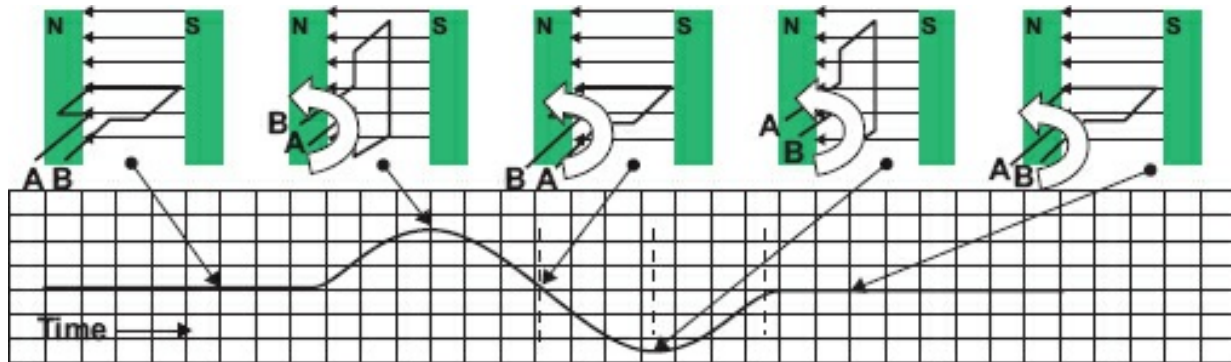
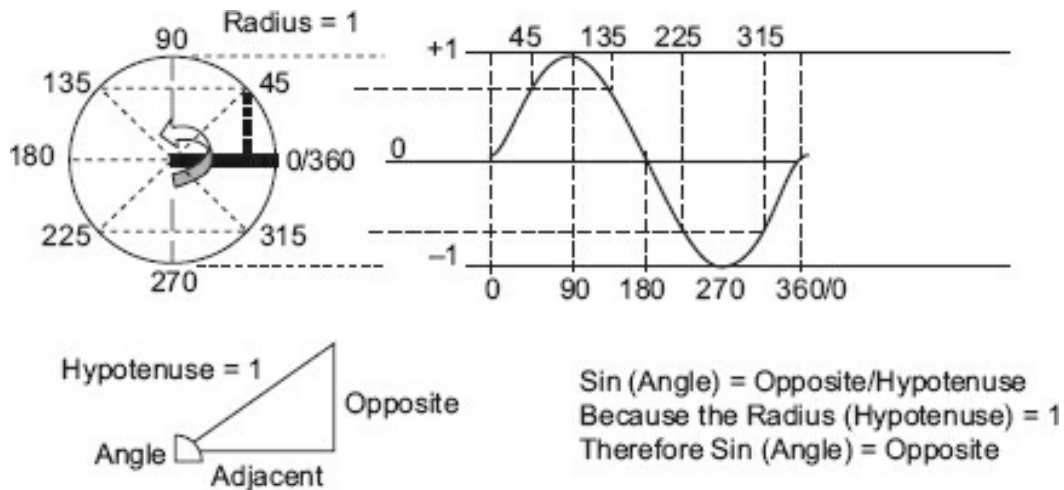
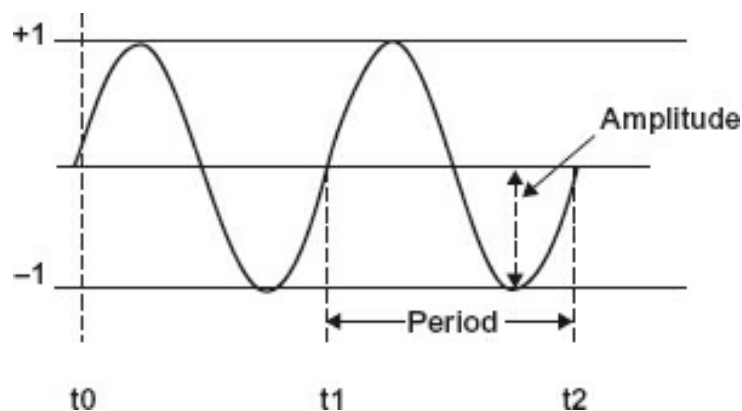

Figure 2-4. Generating an alternating current.
Figure 2-5. Sine wave.
Figure 2-6. A sinusoidal waveform.
For this discussion, there is only one conductor. Figure 2-4 illustrates how a coil that is placed in a magnetic field and rotated will generate an electromotive force, or E (voltage), in accordance with Faraday's law of induction. If the circuit is completed (closed), the voltage will force a current through the circuit. The arrow points to the portion of the curve generated by movement to that position from the previous position.
Figure 2-5 illustrates why this is called a *sine wave*. With the radius as the amount of voltage generated by a single coil (seen previously in Figure 2-4), start at 0° rotation and rotate the radius counterclockwise 360° so it aligns with where it started, just as shown in Figure 2-4. The radius for the circle in Figure 2-5 is 1. The voltage generated will be the sine (sin) of the angle of the radius relative to where it started (0°) during rotation.
One must visualize this sine wave along with the switching system to see what is taking place. Ohm’s law is not (and will not be) repealed. Let us use the drawing in Figure 2-6 and define a few terms.
- **Peak-to-peak value** – This is measured from the positive most voltage excursion negative most voltage excursion. In Figure 2-6, the peak-to-peak value is 2.0 me from either the negative-most or the positive-most excursion to the peak value opposite excursion.
- **Peak voltage** – The peak value for either the negative or the positive excursion. In Figure 2-6, the peak value is 1.0.
- **Root-mean-square (rms)** – Also called the *effective* value. Practically speaking, this value of an AC sinusoidal waveform that produces the same heating effect as a DC value of this value. For example, 0.707 V rms will produce the same heating effect as 0.707 V DC. Most alternating voltage/current values are rms. In Figure 2-6, the rms value is 0.707. To calculate the rms value from the peak voltage, multiply the peak voltage by 0.707. To calculate the peak voltage from the rms value, multiply the rms value by 1.414. (You want to know why, 1.414 is the reciprocal of 0.707.)
- **Frequency** – The number of occurrences in a specified time period (identified in Figure 2-6), usually 1 s. Frequency is measured from one point on a recurrent waveform to the same point on the following waveform. In Figure 2-5, 0° is one point and 360° is the other end of the complete waveform. It is called a *cycle* because it completes 360° and then repeats. The number of cycles per second was formerly expressed as “cycles per second,” but this has been changed to hertz. It is incorrect to say “hertz per second” unless you are talking about the change in frequency per second. Frequency may be determined by dividing the time of the period into 1 s.